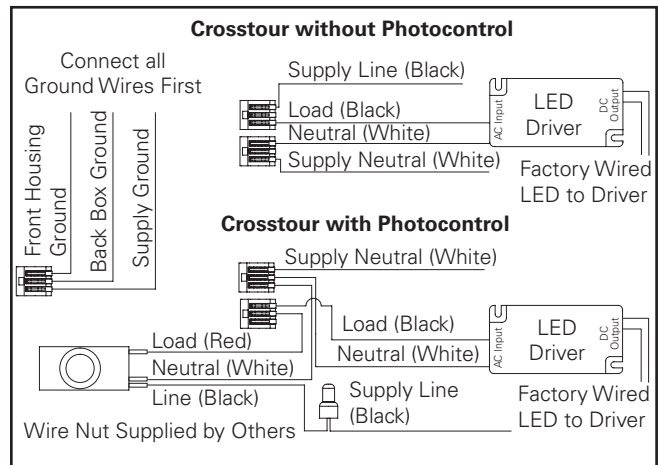
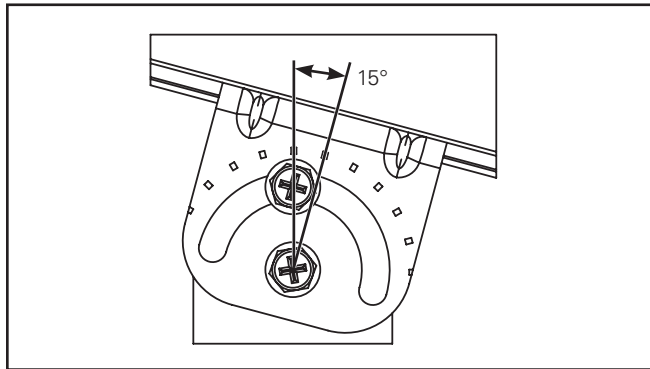

Figure 4.
Figure 5.
4. Route trunnion cord wires into the back box through the center wire way hole. Secure cord gland to the trunnion plate. Attach the back box to the trunnion using the supplied four 8-32 screws with pre-applied thread sealant. Tighten/torque all four screws 30-40 in-lbs. Ensure all screws are equally tight. Ensure that the trunnion flood base is fully compressed against the back box. Full compression will result in no visible gap between the back box and trunnion flood base. (Figure 4.)
5. Make wire connections between the trunnion whip and Crosstour luminaire leads (Figure 4). Re-attach housing door. Tighten/torque to 15-20 in-lbs. Attach optional visor and impact guard (Figure 5).